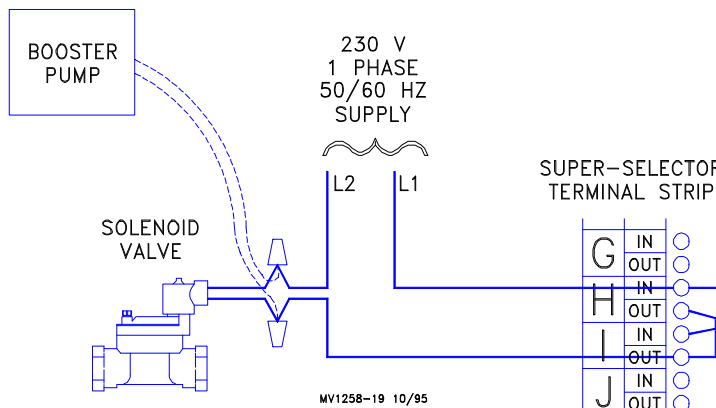

Figure 10. System wiring when controlled by a Chore-Time Super-Selector Control.
Wire the solenoid valve on the control panel as specified in the appropriate diagram for your system. **See Figures 10 - 13.**
- n For tunnel ventilated buildings, Chore-Time recommends using the Super-Selector Control. Refer to **Figure 10** for wiring information when using a Super-Selector Control.